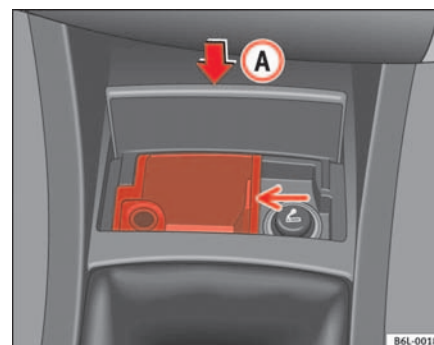

Fig. 80
- Press the lower part of the ashtray cover (A) ⇒ fig. 80 and it will open automatically with a spring action.